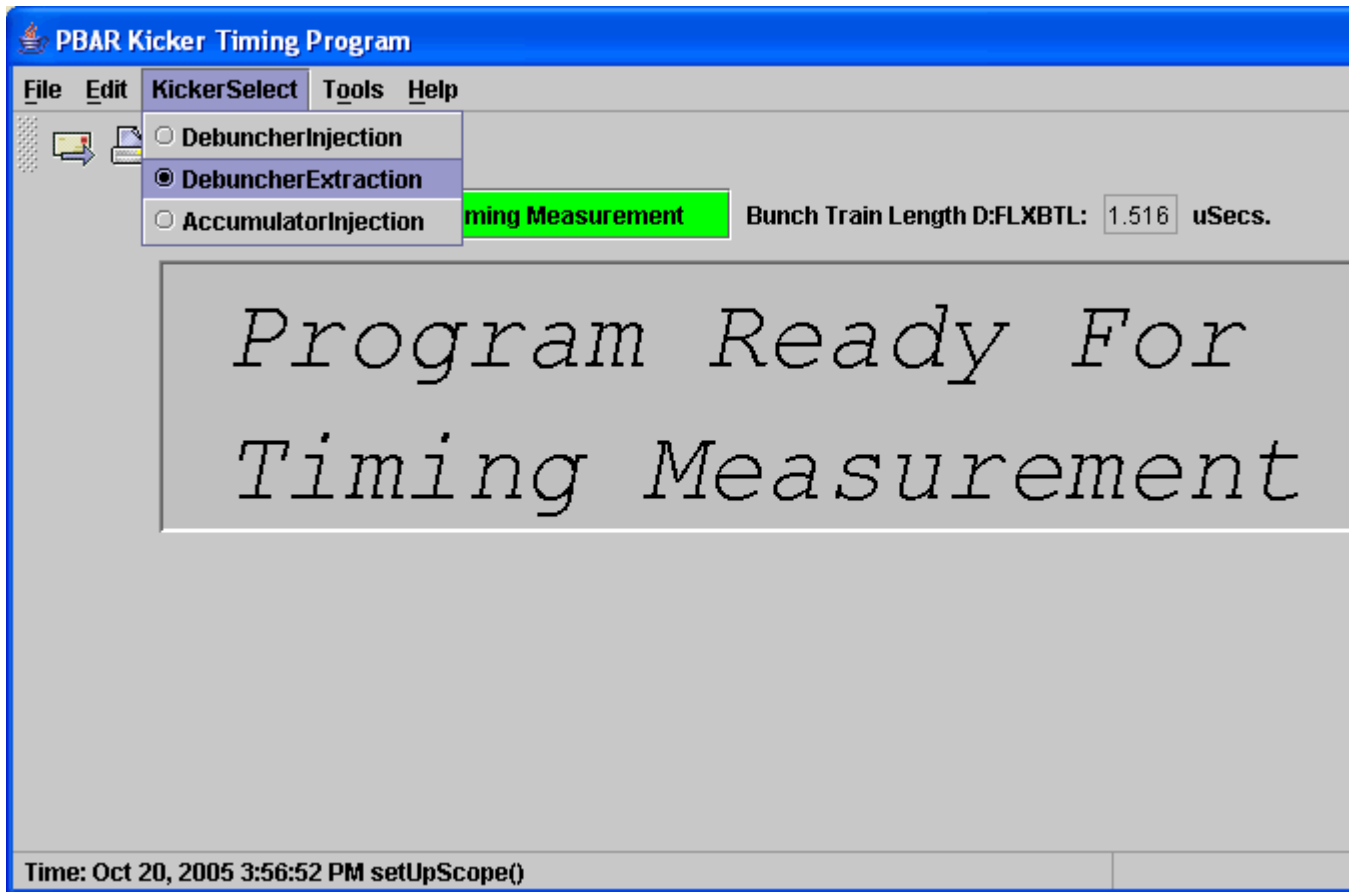

Figure 26: The Java Pbar Kicker Timing Program. Click on "KickerSelect" and then select "DebuncherExtraction"
4. From the Java Kicker Timer Program application, go to "KickerSelect" -> "DebuncherExtraction" as shown in Figure 26.